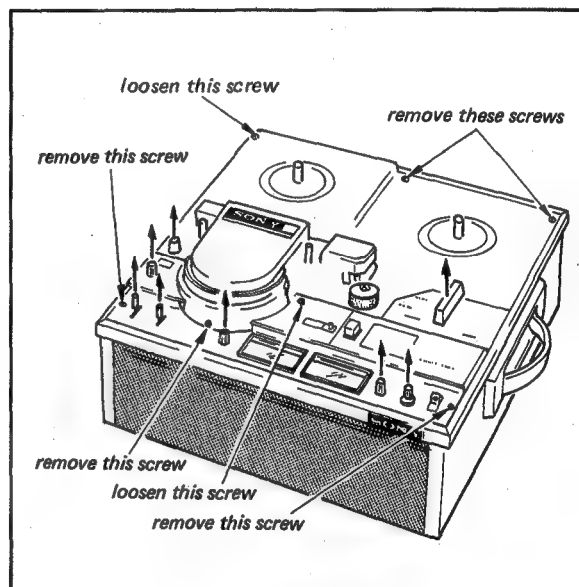

Fig. 3-2. Removal of control and reel panels
2. Loosen the one screw and remove the two screws on the Control Panel as shown in Fig. 3-2.
5. Loosen a screw and remove the two screws on the Reel Panel as shown in Fig. 3-2.